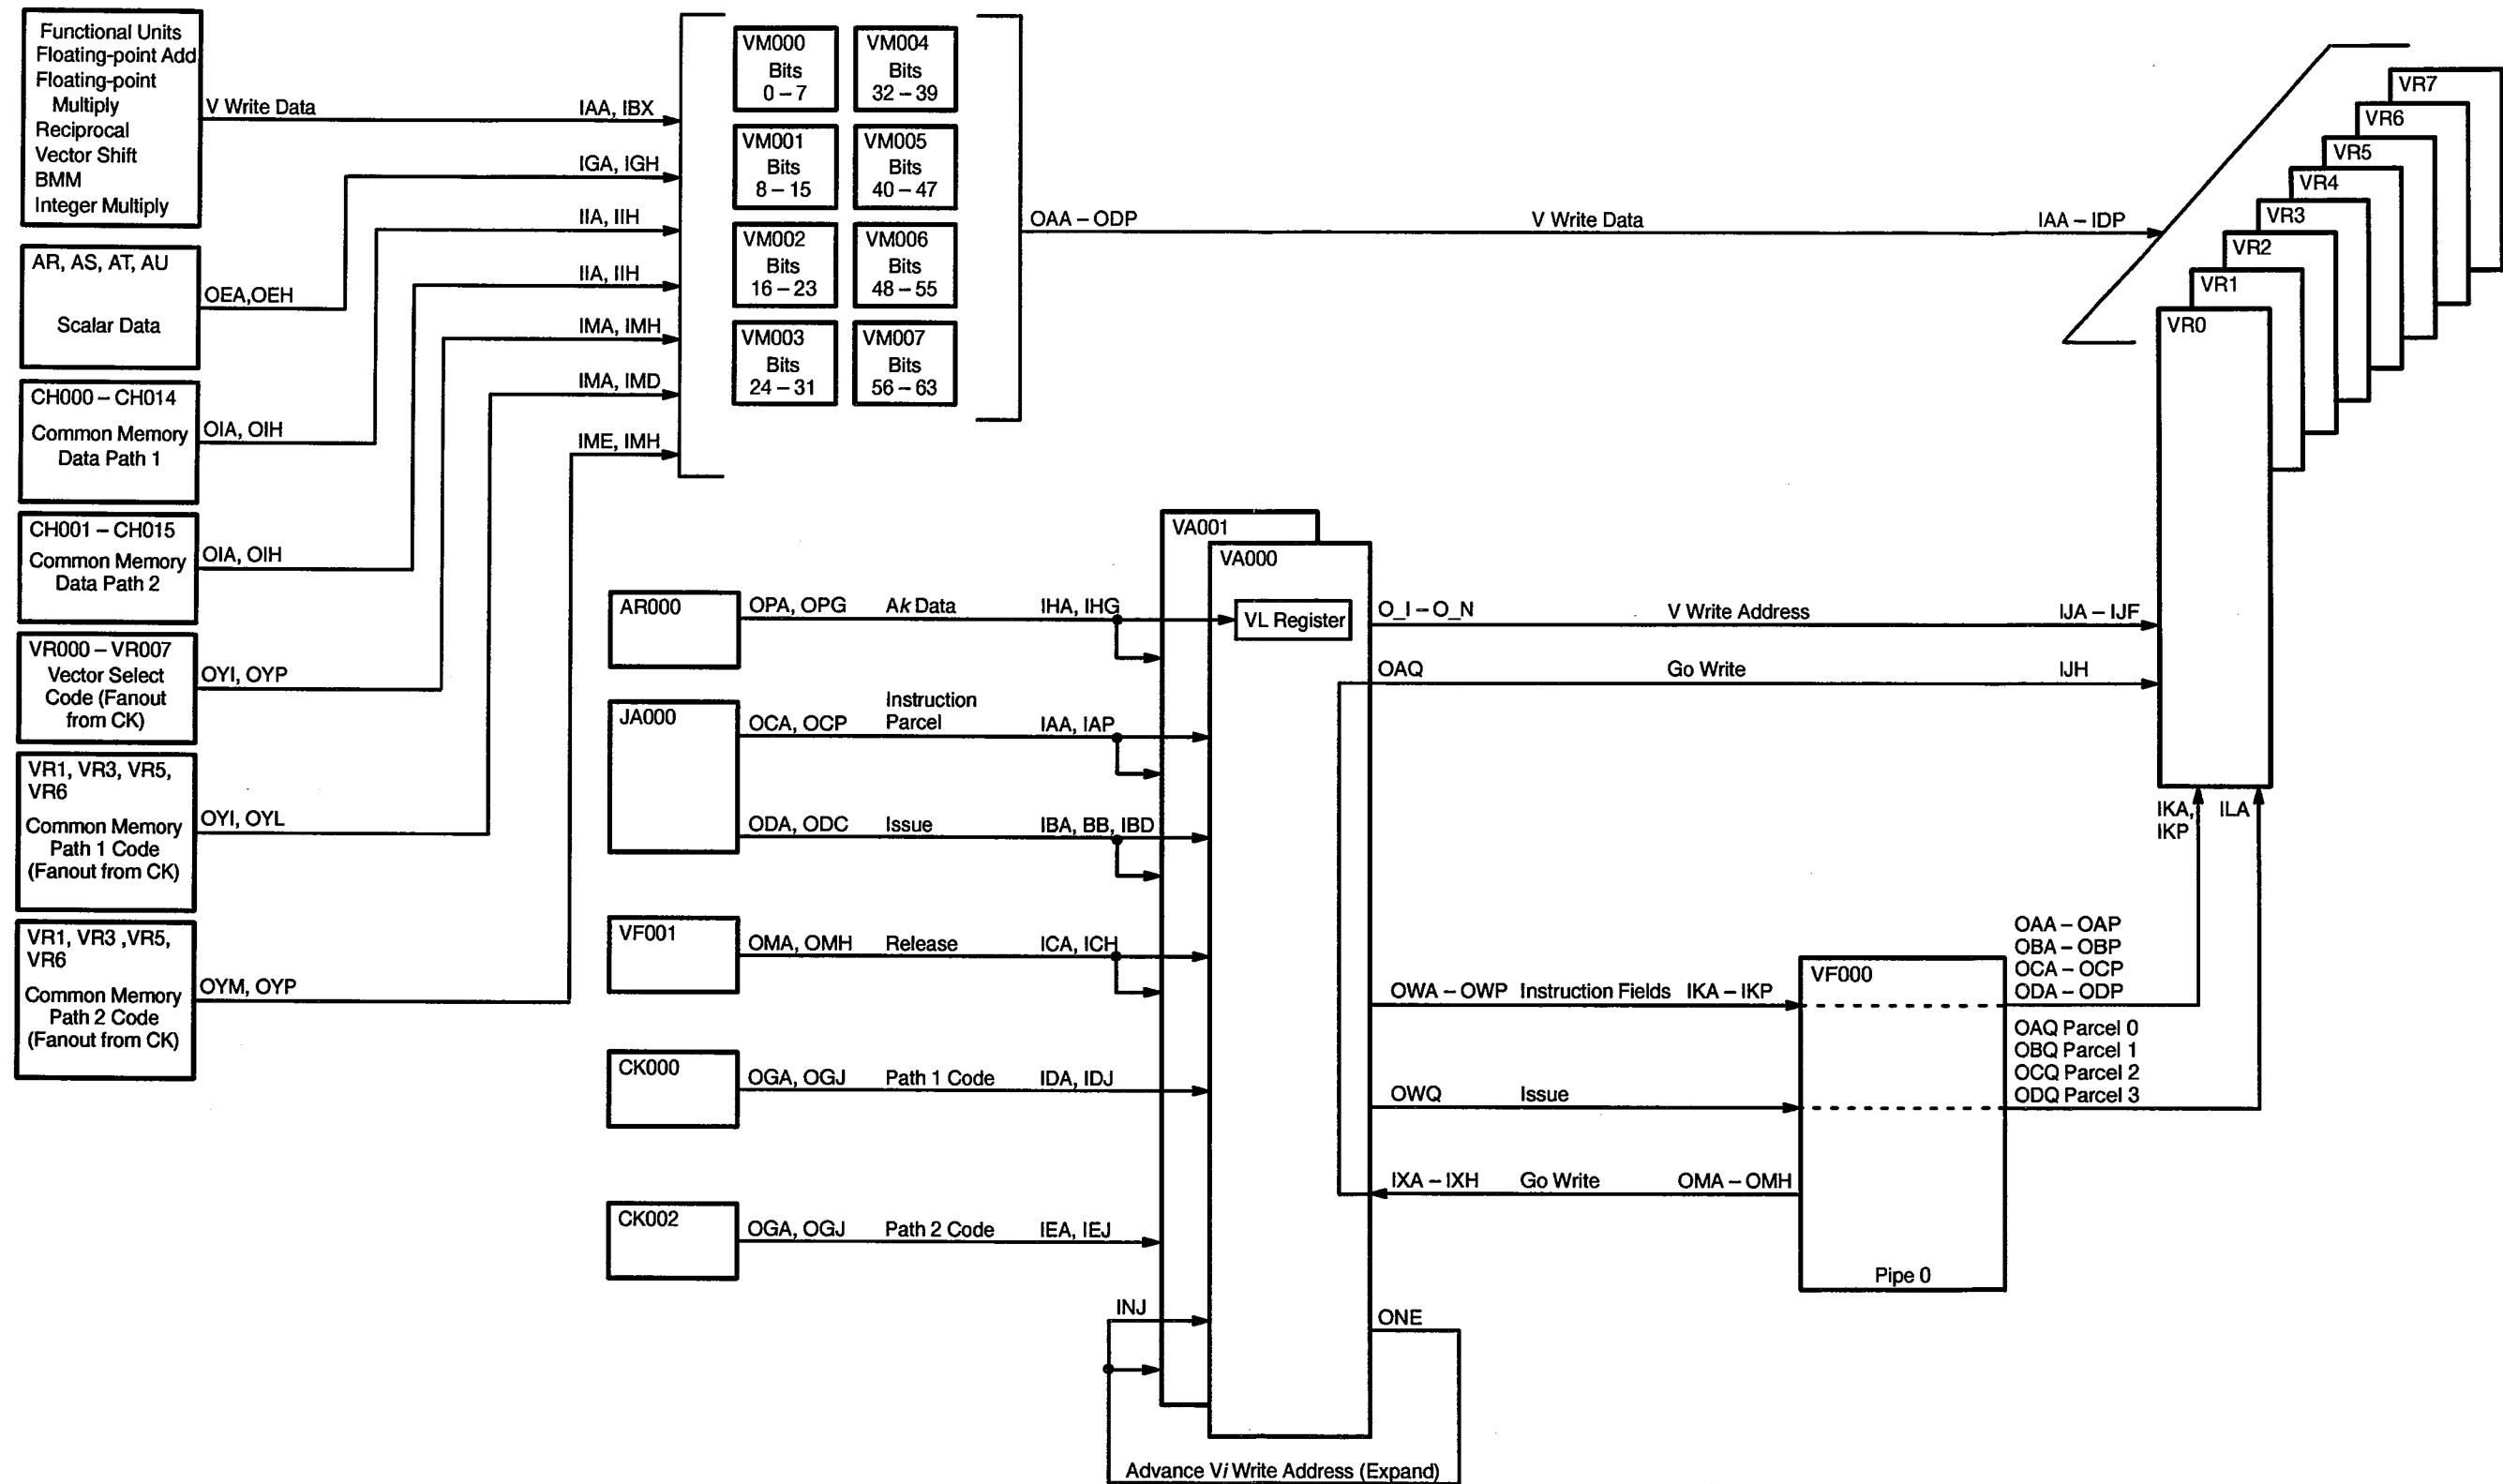

Figure 38. Vector Register Write Block Diagram (Pipe 0)
- Figure 38 – vector register write block diagram (pipe 0)